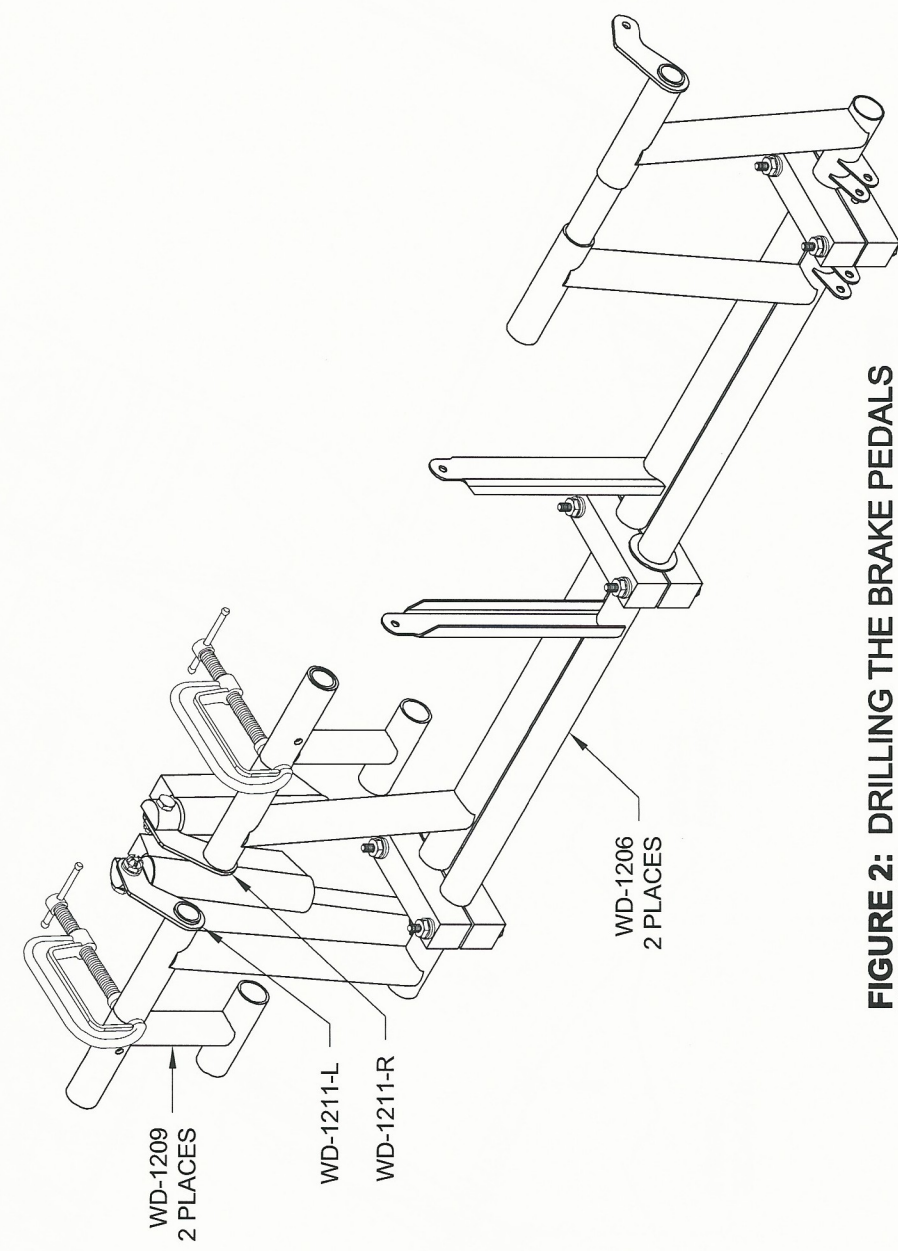

FIGURE 2: DRILLING THE BRAKE PEDALS
Step 4: Repeat the same process for match-drilling and final-drilling the WD-1209 Brake Pedals and WD-1211-R & -L Brake Pedal Torque Tubes for the other end of the WD-1206 Rudder Pedals. The parts are assembled as shown in Figure 2.